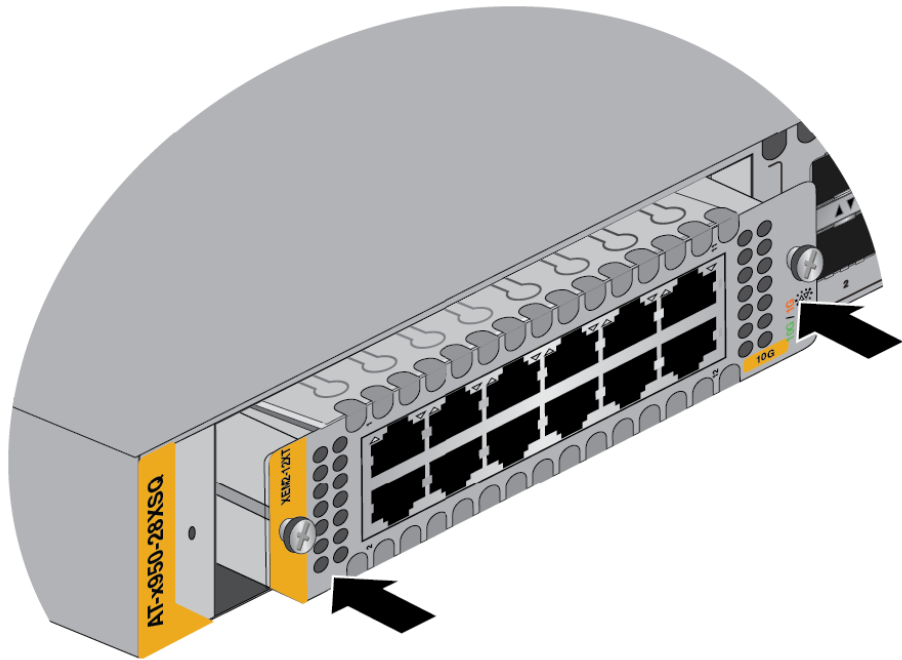

Figure 75. Seating the Ethernet Line Card in the Expansion Slot
4. When the line card makes contact with the internal connector in the switch, gently press on the sides of its faceplate to seat it on the connector. Refer to Figure 75.